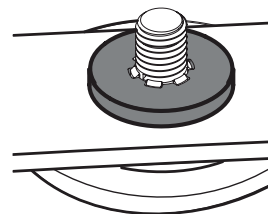

Figure 64
2. Carefully place the flat washer on the spindle shaft. Be sure that the splines at the base of the spindle shaft threads line up with the washer splines (Figure 64).